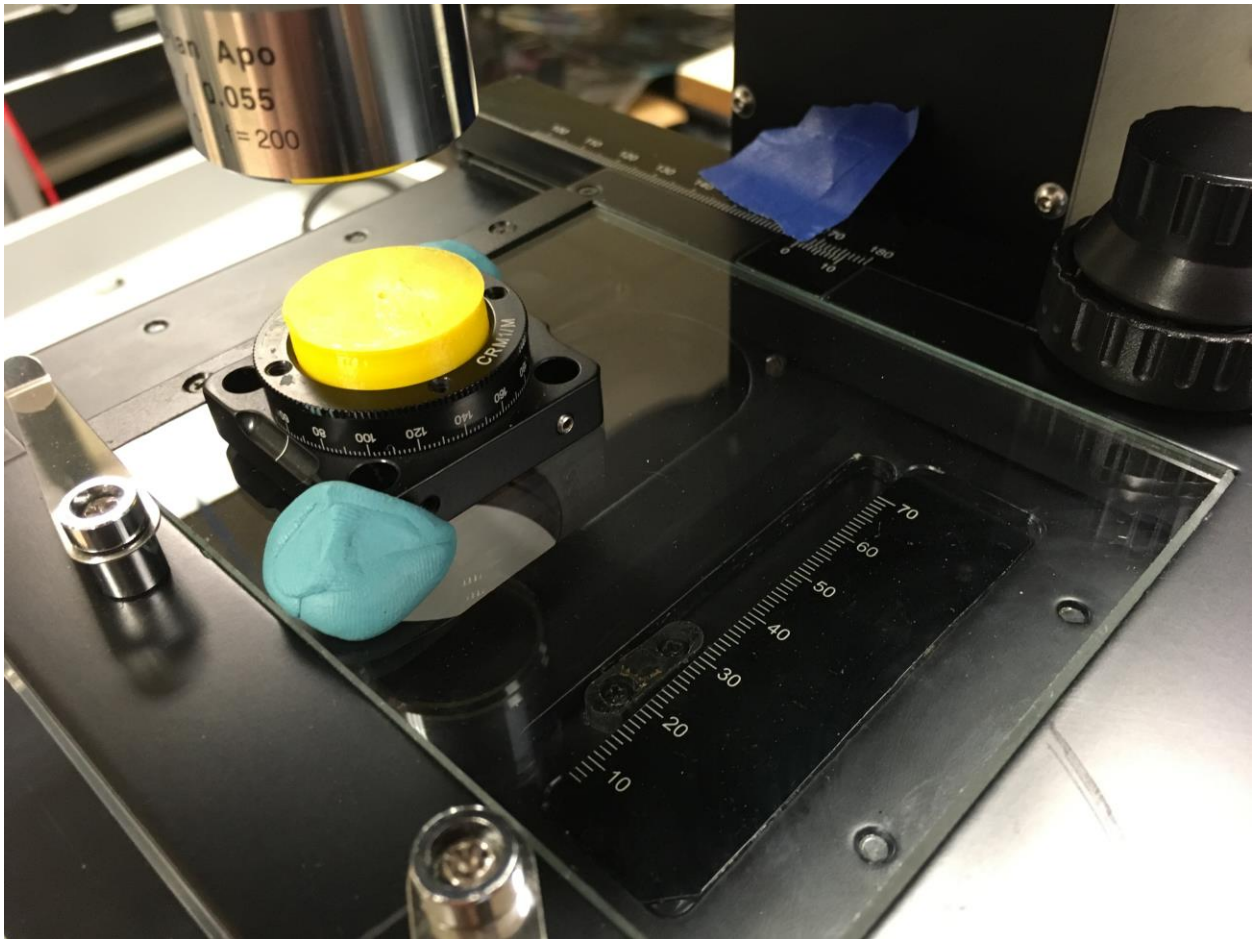

Figure 18 Marking Location.
7. Mark the x direction of the sample stage with either a piece of tape as shown in Figure 18 or note the value on the ruler. It doesn't matter what is chosen, so long as the stage can be put back in the same position.